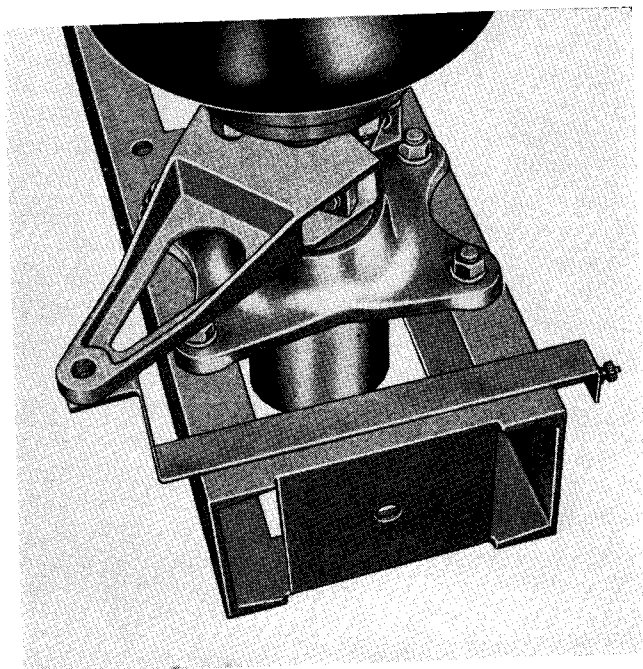

FIG. 5.
(1) Open the blade to the fully open position against the stop.
(2) Check the three pole field erection drawing furnished with this order, for the approximate angular position of the operating lever when the switch is in the open position. (The erection drawing normally shows the switch in the closed position, but the open position of the levers is also shown.)
(3) Clamp the locating tool onto the base as shown on Fig. 5. This locating tool can be attached to the base in any one of four positions. The stud on the locating tool should be placed in the proper hole on the top of the base near the bearing, and the other end of the tool clamped to the side of the base.
(4) Clamp the operating lever in place so that the bottom of the lever just touches the top of the locating tool, and adjust the angular position of the lever so that the hole in the lever is directly over the hole in the locating tool, as shown on Fig. 5.
(5) This lever is completely adjustable through 360 degrees. The holding clamp will mate with the bearing shaft in 15 degree steps. The fine positioning of the lever is then done by loosening one clamping bolt and tightening the other.
(6) When installing and adjusting these levers it is important that each pole unit blade is in the same fully open position, against the stop, when the lever is positioned. Improper settings of these levers will result in the three blades not "tracking" when they are ganged together.